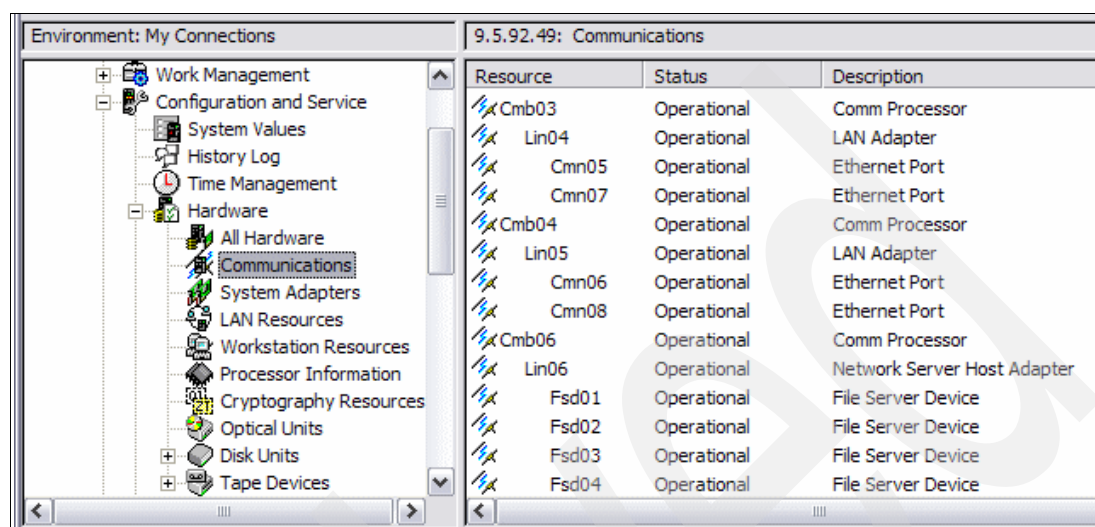
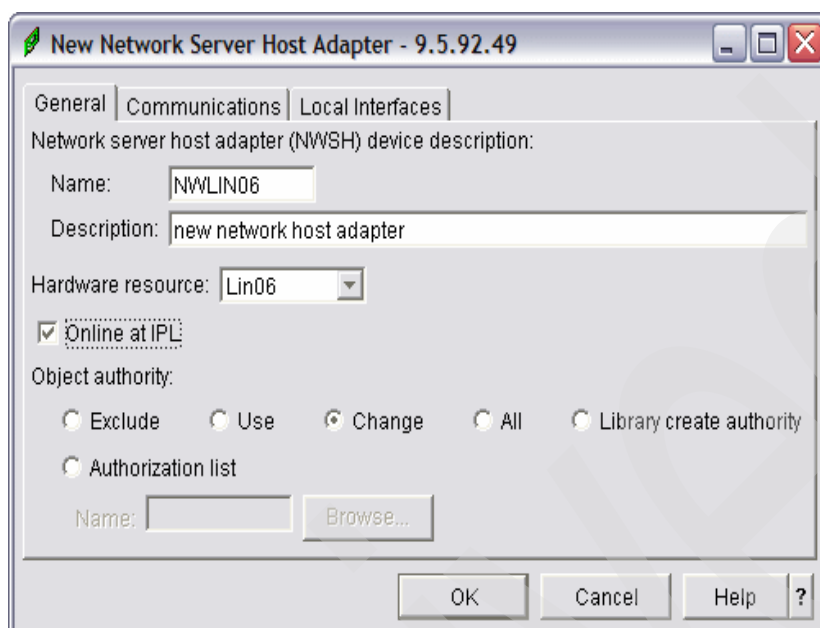

Figure 4-10 Locating NWSH hardware
Figure 4-15 Specify hardware resource for network host adapter
1. Expand **Configuration and Service** → Expand **Hardware** → Click **Communications** (Figure 4-10).
7. Provide a name using an appropriate naming convention. Fill in the Resource name derived in Figure 4-10 on page 60, choose whether to have the NWSH online at IPL and specify the authority for users not explicitly authorized to the object (Figure 4-15).